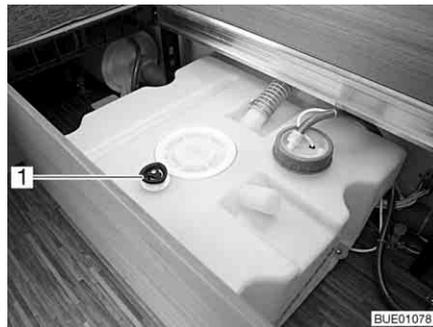
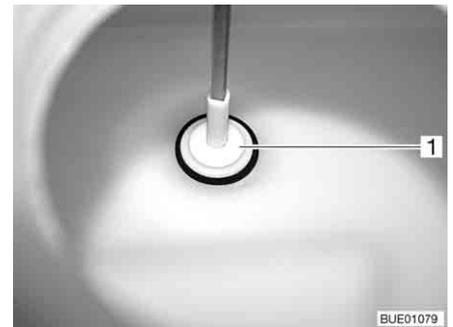

Fig. 190 Water tank (40 l)
Fig. 191 Stopper
- Turn the handle (Fig. 190,1) on the water tank in an anticlockwise direction as far as it will go. The stopper (Fig. 191,1) at the bottom of the tank is lifted.
- Turn the handle (Fig. 190,1) on the water tank in a clockwise direction as far as it will go. The stopper (Fig. 191,1) at the bottom of the tank closes the drain.